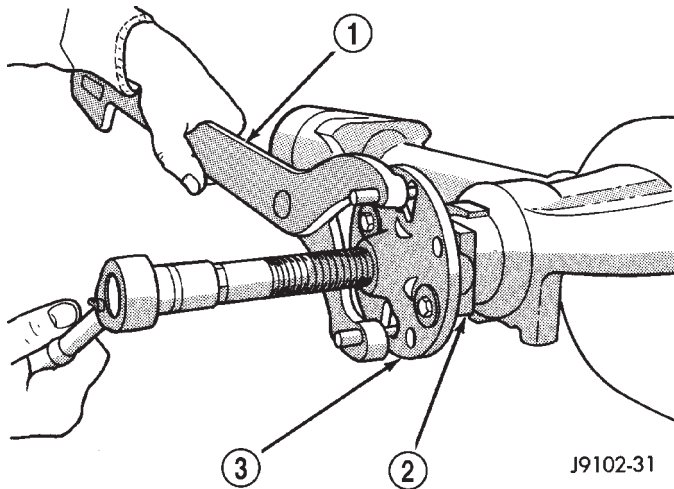

Fig. 6 Pinion Yoke Removal
(1) Raise and support the vehicle.
(2) Remove wheel and tire assemblies.
(3) Remove brake rotors and calipers. Refer to Group 5, Brakes, for proper procedures.
(4) Mark the propeller shaft and pinion yoke for installation reference.
(5) Remove the propeller shaft from the yoke.
(6) Rotate the pinion gear three or four times.
(7) Measure the amount of torque necessary to rotate the pinion gear with a (in. lbs.) dial-type torque wrench. Record the torque reading for installation reference.
(8) Using Holder 6958 to hold the pinion yoke, remove the pinion nut and washer.
(9) Use Remover C-452 and Wrench C-3281 to remove the pinion yoke (Fig. 6).
(10) Use a suitable pry tool or a slide hammer mounted screw to remove the pinion shaft seal.